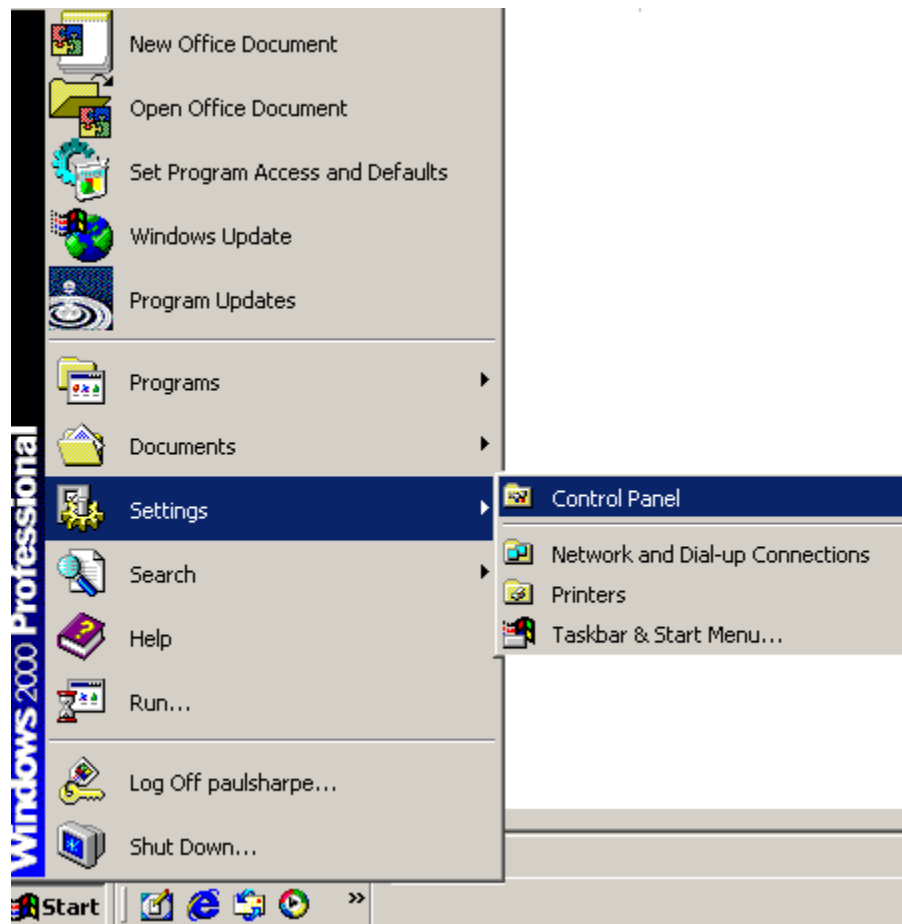

Figure 6-12: Access Windows Control Panel
Step 1: Open **Windows Control Panel** (Figure 6-12).
Step 1: Open **Windows Control Panel (Figure 6-12)**.